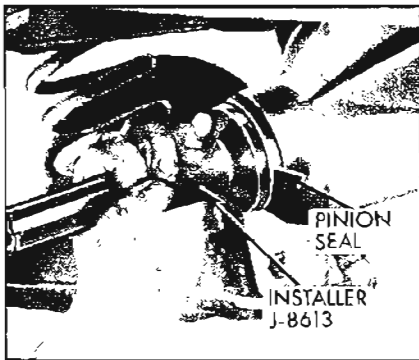

Figure 6-26—Installing Pinion Oil Seal
3. Install pinion oil seal in carrier. Coat O.D. of seal with sealing compound. Install seal by using Installer J-21128. See Figure 6-26.